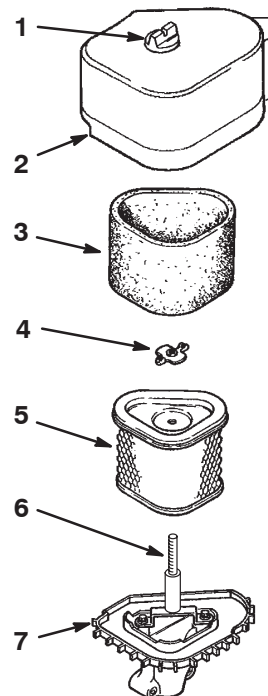

Figure 29
3. Unscrew the knob and remove the air cleaner cover (Fig. 29).